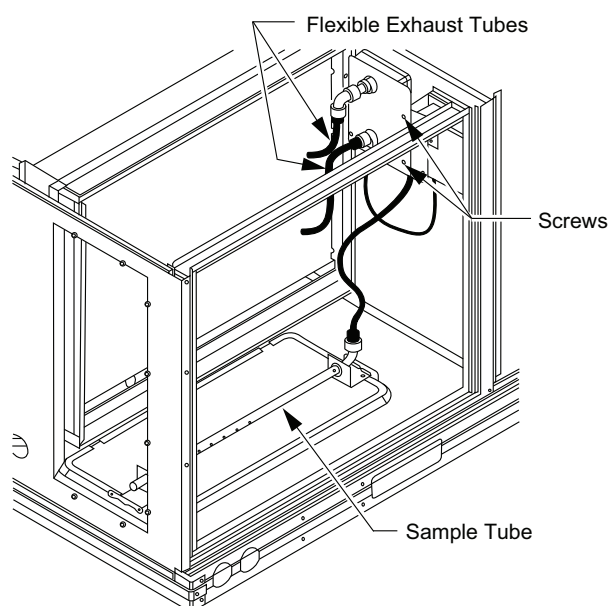

Fig. 58 — Return Air Smoke Detector Shipping Position
1. Unscrew the two screws holding the return air sensor detector plate. See Fig. 58. Save the screws.